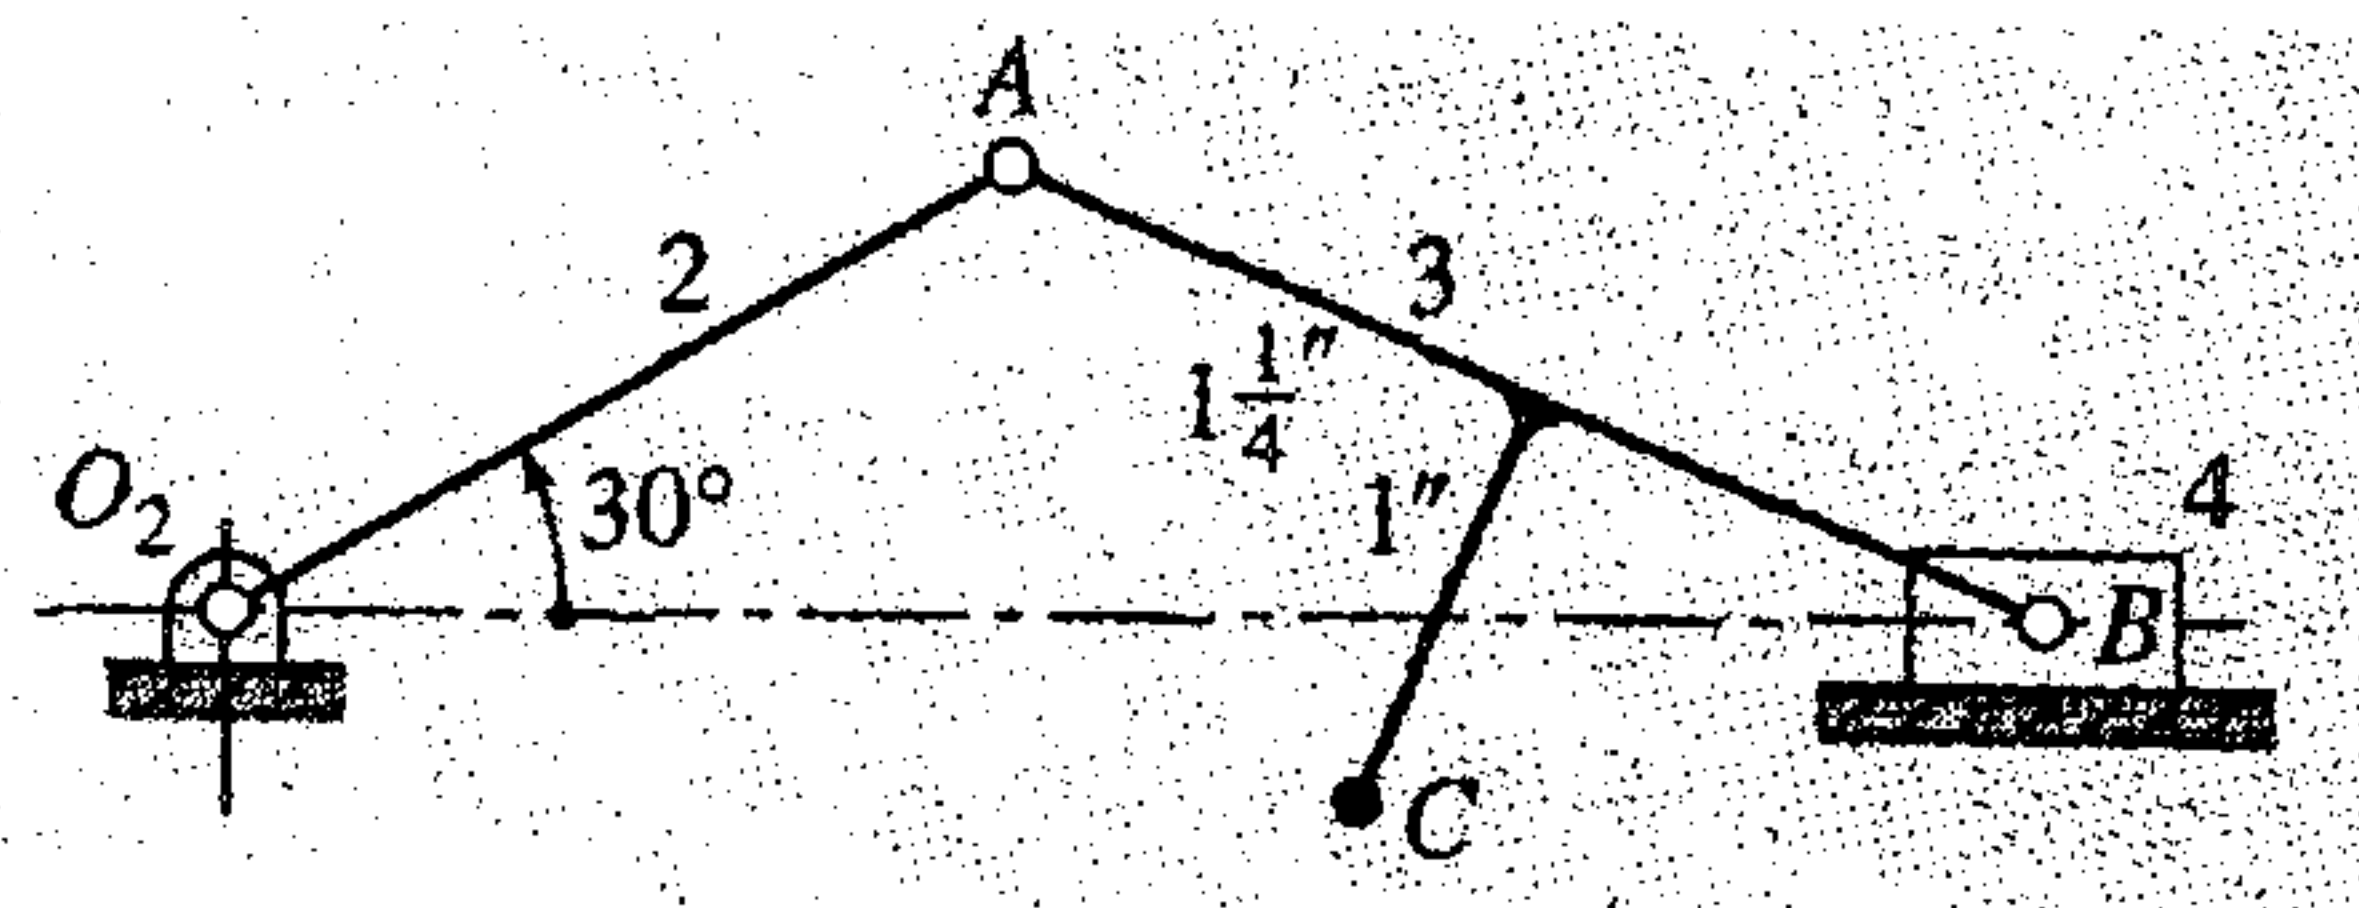

Fig.1
- b. Find the inflection circle for motion of slider crank of Fig.1 and determine the instantaneous radius of curvature of path of coupler point C.  $R_{AO_2} = 2$  in. And  $R_{BA} = 2.5$  in. 5